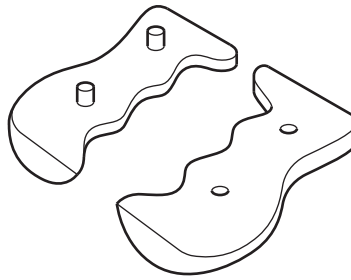

Fig. 6.1
- 6 Fig. 6.1 shows a split pattern made of wood. The split pattern will be used to make an aluminium handle for a hacksaw.